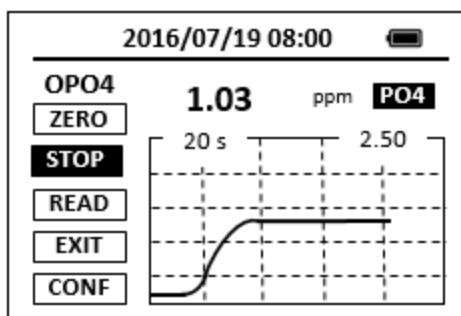

Figure 15. Concentration as a Function of Time
3. Place sample vial back into the sample vial compartment and press the timer button **TMR1**. The SP-910 will start to monitor the reaction between the reagent and the species you want to measure in the water sample. The concentration is shown in the chart as a function of time (Figure 15).
In order to show the concentration-time curve as shown in Figure 15 during the last timing step, The SP-910 must be zeroed using the prepared blank before the last timing step. Thus, the last timer button will not be selectable until the SP-910 has been zeroed using the prepared blank. Multi-timing step Hach® methods require zeroing the colorimeter using the prepared blank after the last timing step is completed. The SP-910 can optionally be re-zeroed using the prepared blank after the last timing step. The blank value measured will be subtracted from the concentration value measured at the end of the last timing step. Optionally, the **READ** button could be pressed to read the prepare sample again.
3. Place the prepared sample into the SP-910 sample vial compartment and press the **TMR2** button to start the second timer. The SP-910 will display the measured concentration as a function of time as shown in Figure 15.